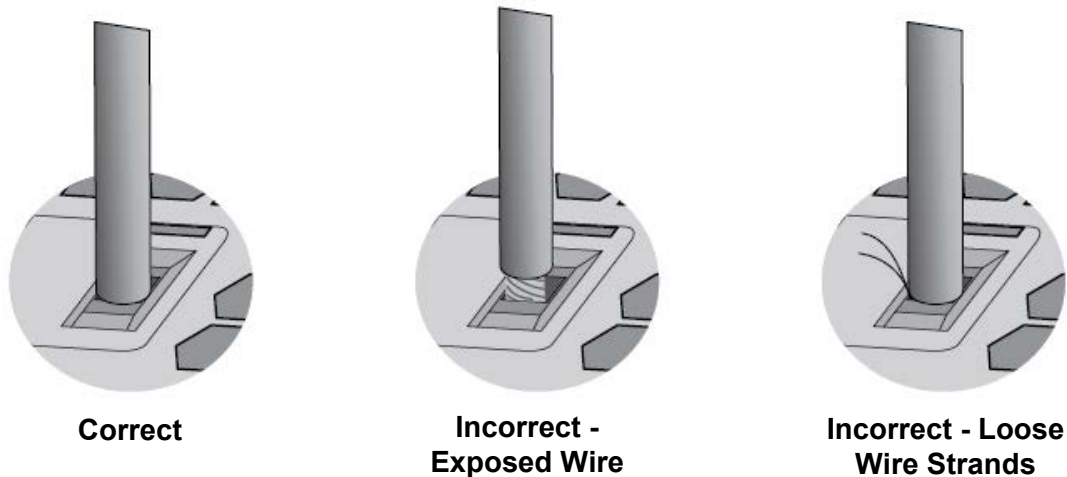

Figure 10. Verifying Wire Installation
- ❑ After installing wires, visually inspect them for exposed wires or loose wire strands. Refer to Figure 10.
4. Visually inspect the wire for exposed wire and loose strands. Refer to Figure 10 on page 47.
5. Visually inspect the wires for exposed wires and loose strands. Refer to Figure 10 on page 47.